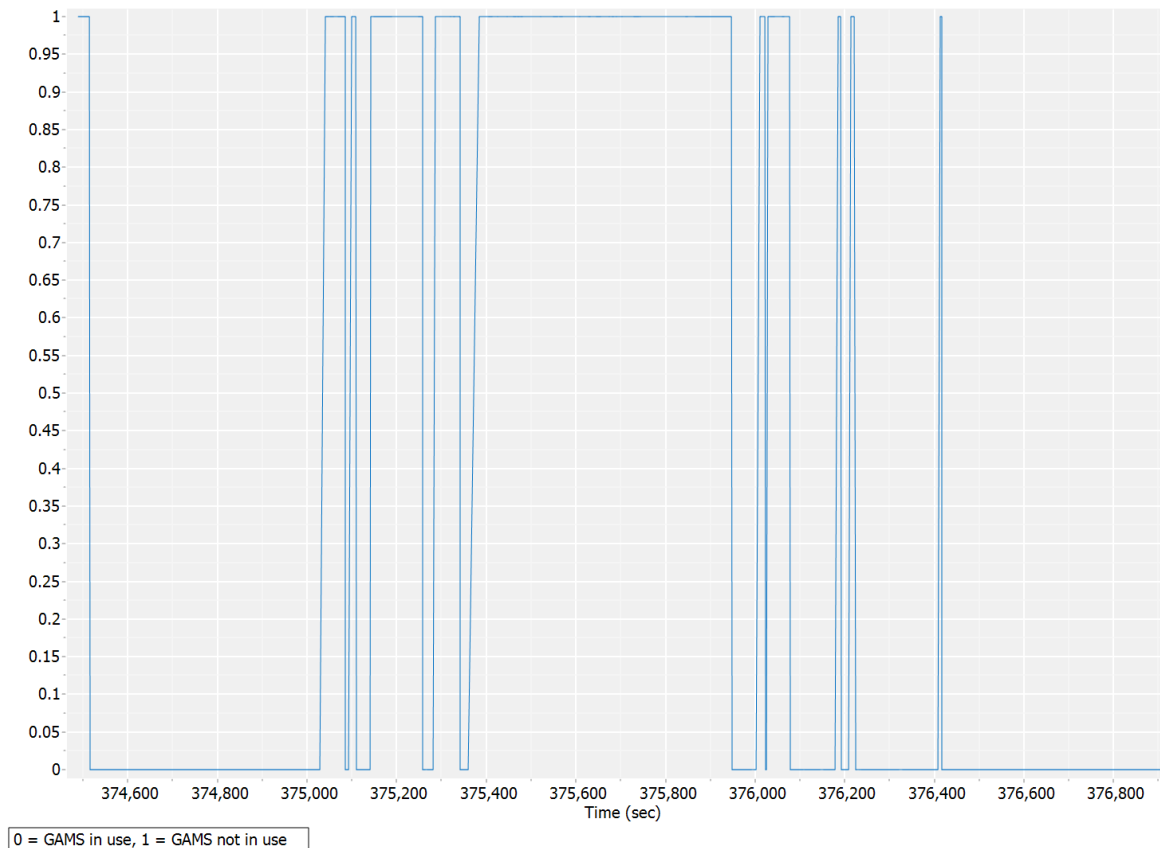

Fig 6: GAMS Solution Status
- *Provides information if GAMS (dual antenna) was in use or not (Fig 6)*